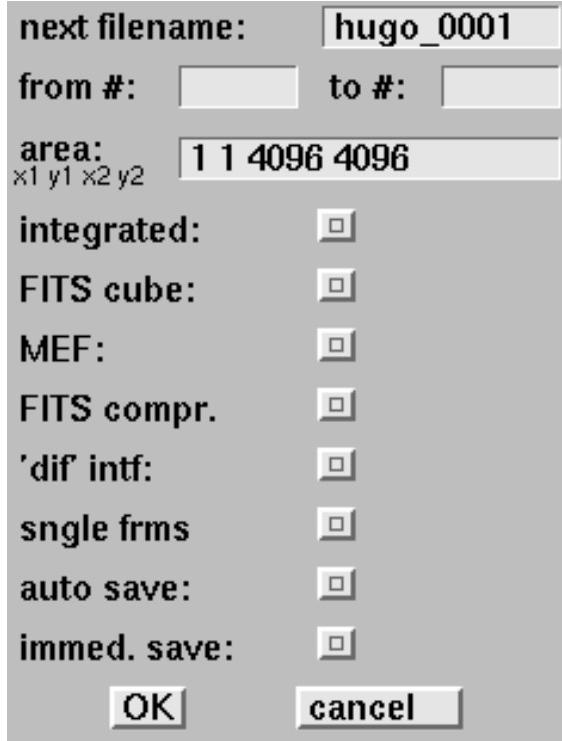

Figure 9: Save options window
- **Repeat** is the number of images  $N$  with the specified exposure time  $T$  which will be taken each time a read is executed (read-cycle). The total exposure time will then be  $N \times T$  seconds. The maximum number of images depends on the computer shared memory set up in Section 2.5 and the setting of **CAMSHMSZ** in **scripts/Generic**. The current sequence number of the **reads** is displayed to the left (**Read** button, see below). **Endless** may be pressed to start an endless loop of reads. The images are read out with the current integration time and dumped to the display. They are not saved unless the **autosave** option has been activated via the GUI (Figure 9) or **autosave** command (Section 5.3). This is useful for positioning the telescope before e.g. starting a macro.
- **Save-Options** Calls up a save configuration panel, Figure 9, which defines the default way in which to save images. The file name to be created next is defaulted. The range of frames to be saved follows in the next line of options. The **area** is the data section in pixels, in 1-based FITS coordinates—equivalent to having defined one software window. The main choices are whether